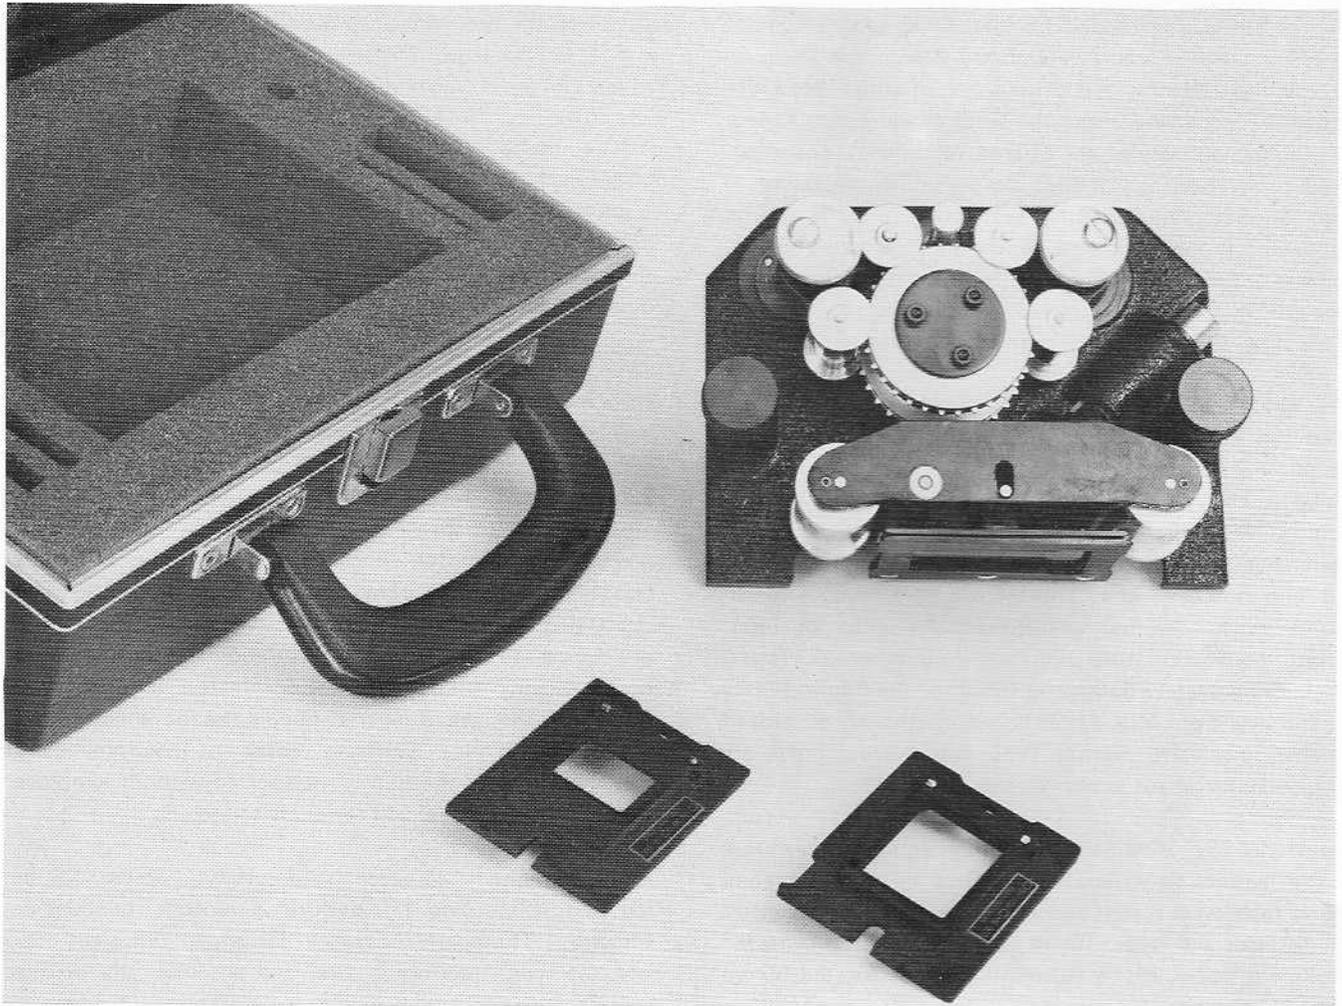

Figure 2. Interchangeable Film Movements
2.2 **FILM MOVEMENTS.** Interchangeable film movements with sprocket drives (see Figure 2) accurately position the film for exposure to within plus or minus two ten-thousandths of an inch, forward or reverse. The registration pins on the aperture never move. The film is positioned on the pins by a vibrationless cam actuated pressure and stripper plate. For greatest accuracy and durability, the cam is tapered to ease the movement of the film onto the pins. The cam movement is automatically deactivated when the film is transported without exposure to minimize film wear and eliminate scratching.
2.3 **VIEWFINDER.** A precision rack-over mechanism automatically positions the reticle over the optical center for projection or viewing. Interchangeable ground glass reticles (see Figure 2) accurately match the aperture center and film focal plane. A high intensity tungsten halogen lamp projects the reticle markings through the lens onto the table top for convenient composing of copy and for correcting focus above the table top (e.g., when using compound, etc.). The projection lamp and blower are automatically switched off during exposure or when the viewing eye-piece is used. The direct reading monocular eye-piece with 4X and 10X magnification is used for composing transparencies. It swings to face the operator when the camera is rotated for slide or filmstrip formats. The standard 35/46mm reticle has precise markings for slides to fit pin registered mounts, for cardboard and plastic mounts, filmstrips, TV safe area and composing grid. The animation reticle supplied with the Model SSA has markings for 16mm and 35mm Academy formats.